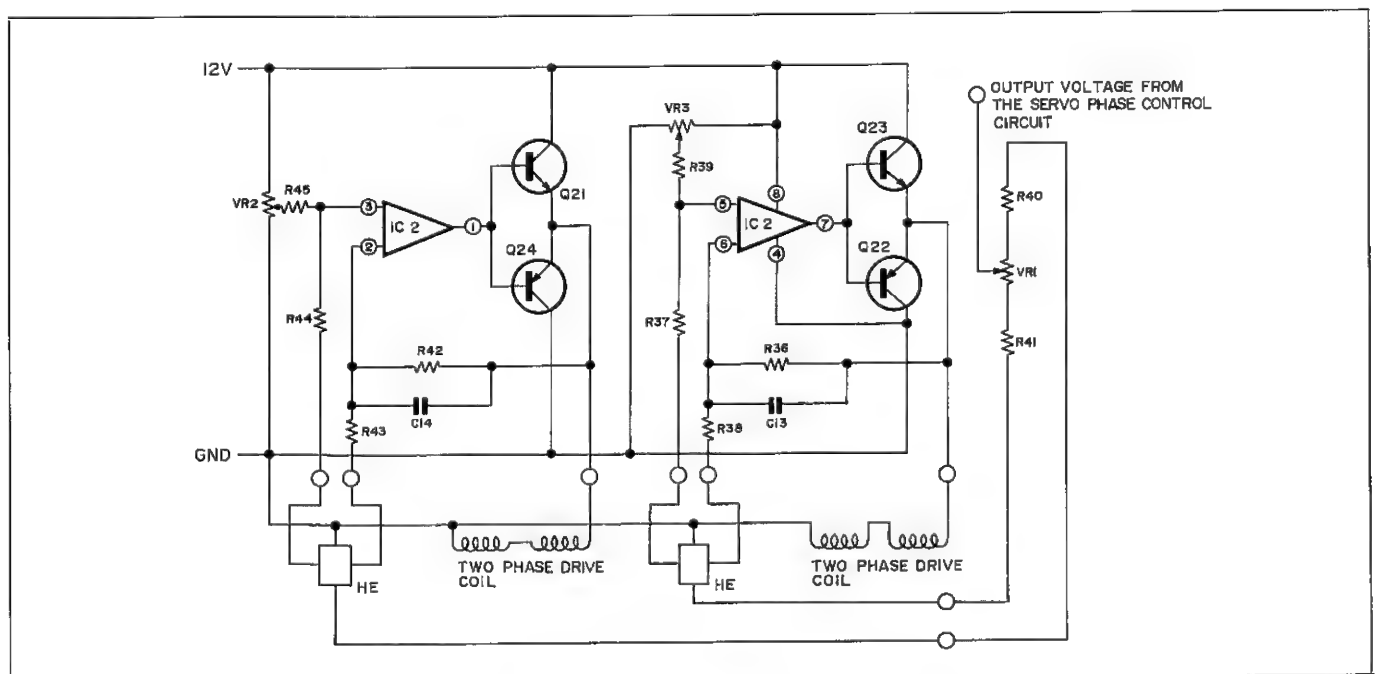

Figure 31 DD MOTOR DRIVE CIRCUIT
**(8) DD motor drive circuit** (See Figure 31)